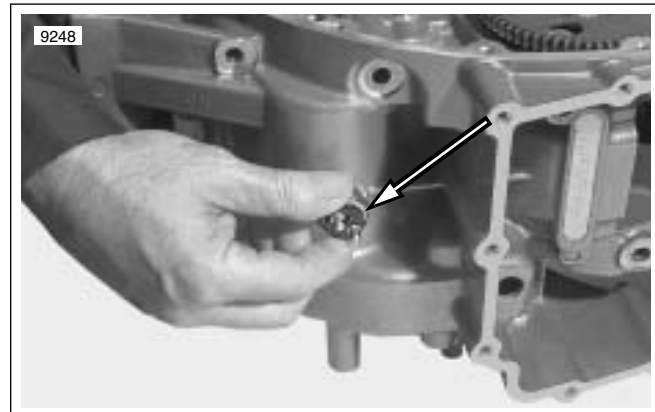

Figure 3-125. Neutral Switch
2. See Figure 3-125. Remove neutral switch.